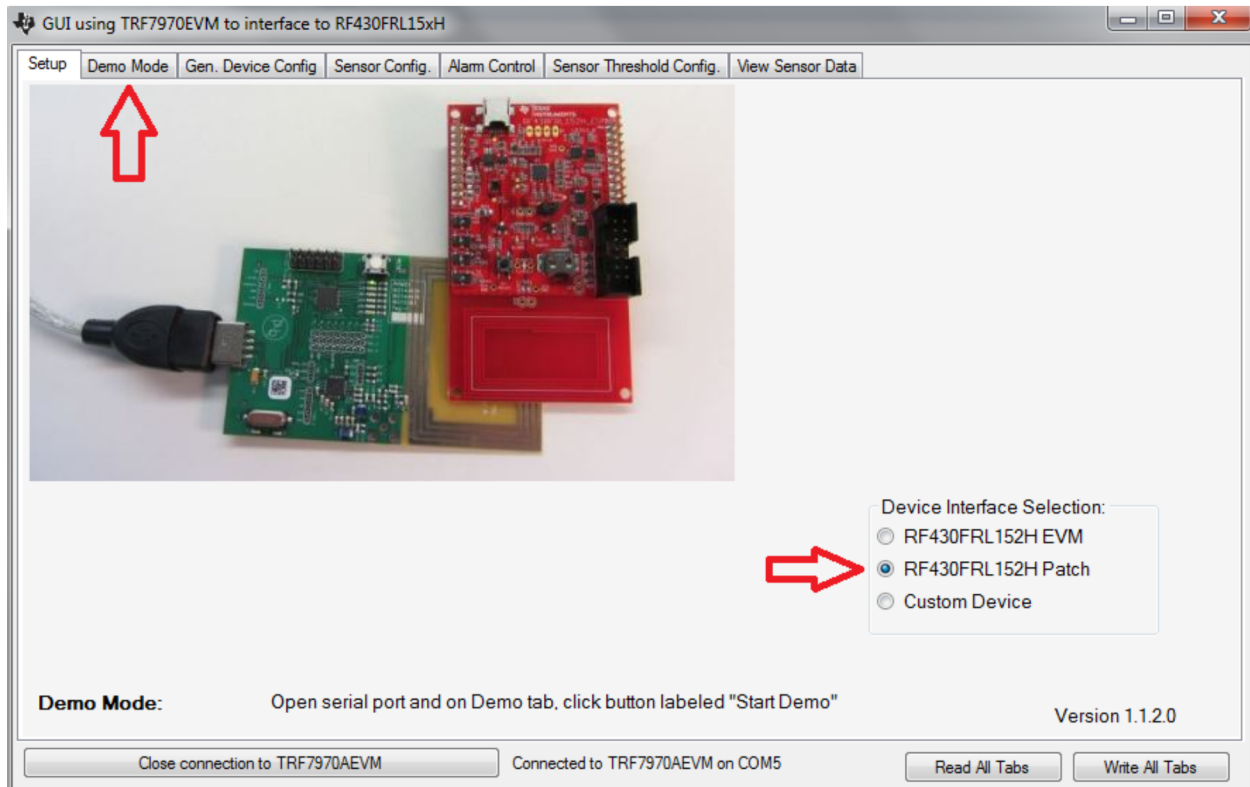

Figure 4. Select RF430FRL152H Patch
3. Select the "RF430FRL152H Patch" and then click the "Demo Mode" tab (as shown in Figure 4).